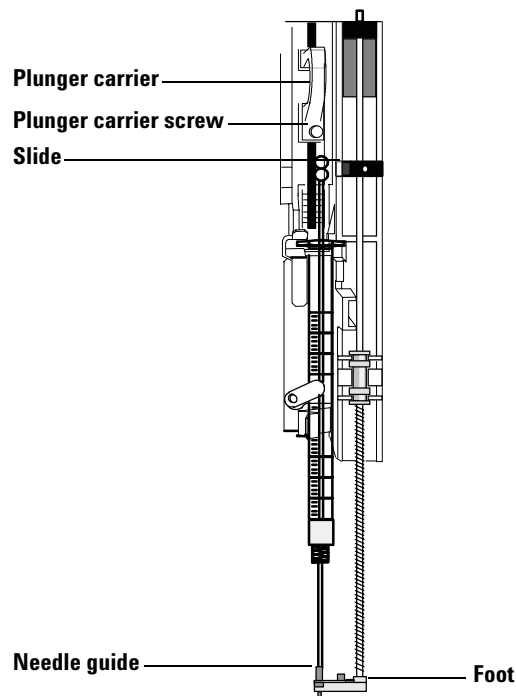

Figure 12 Verifying installation
- Move the plunger carrier up and down (Figure 12). If the syringe plunger does not move with the carrier, loosen the plunger screw, move the carrier onto the plunger head and retighten the screw. Be sure the plunger carrier screw is tight.